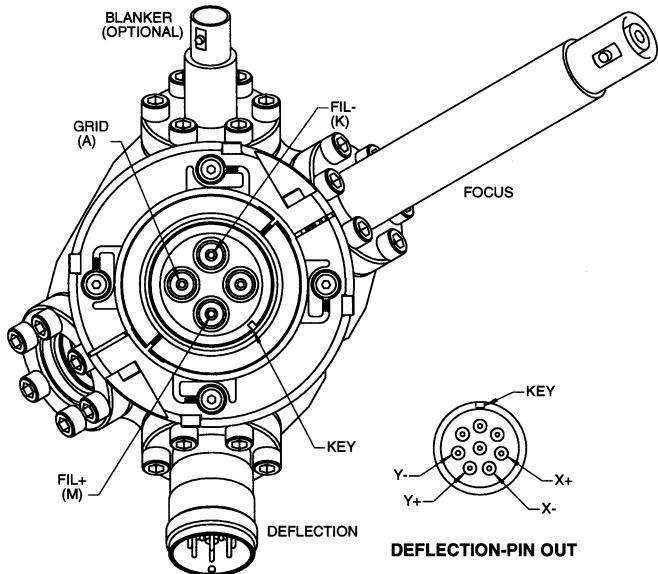

Fig. 6.3-5 EGG-3101 pinout as seen from the top of the Flange Multiple
5. With an ohmmeter, short check the Firing Unit Cartridge installation. The two filament lead pins on the central gun connector should be continuous (~0.2 ohms) with each other and open circuit to everything else. Check that the other electrical leads are not shorted to any of the other gun elements. (See pin out in Fig. 6.3-5.)